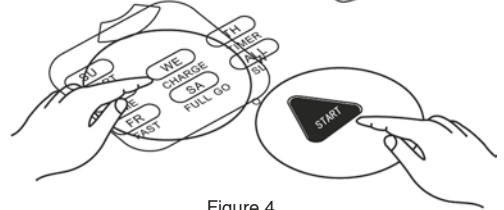

Figure 4
5. When the machine is searching for the Docking Station, if you press START key on the machine's panel or the key and CHARGE key on the remote controller, the machine will stop searching for the Docking Station. (See Figure 4)